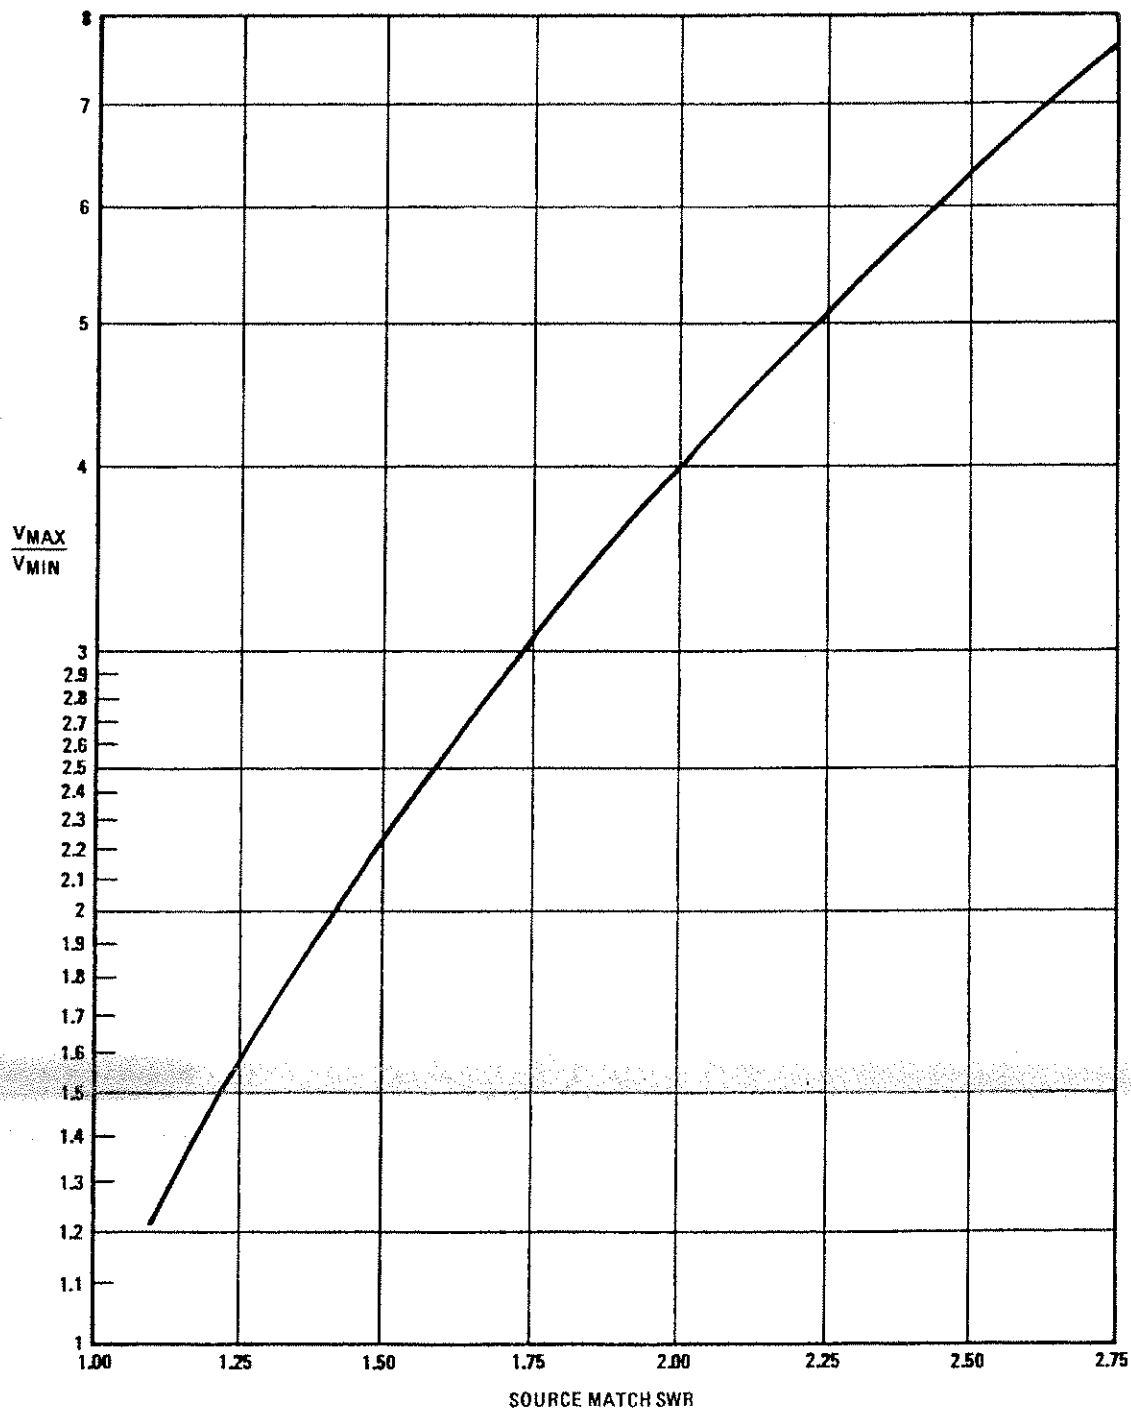

Figure 4-17. Conversion of Oscilloscope Trace to Source Match SWR
- f. Convert greatest  $V_{\max}/V_{\min}$  ratio noted in step e into source match SWR using Figure 4-17.